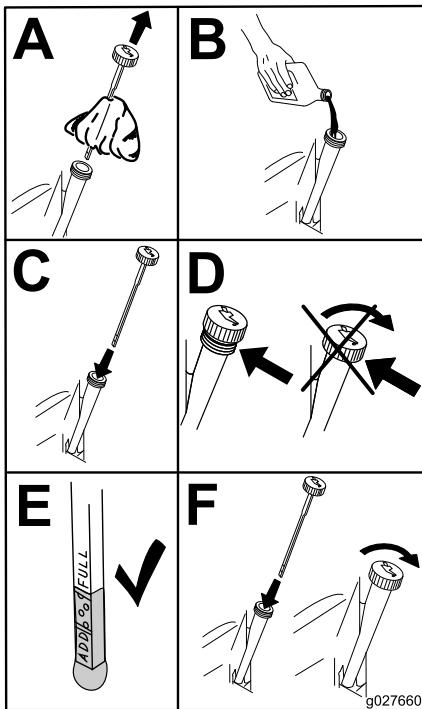

Figure 39
5. Slowly pour approximately 80% of the specified oil into the filler tube and slowly add the additional oil to bring it to the **Full** mark (Figure 39).